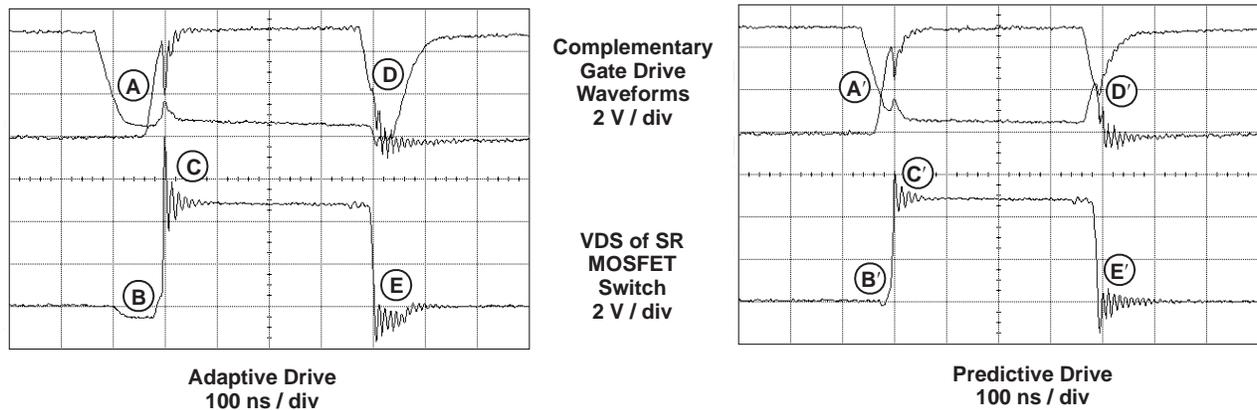
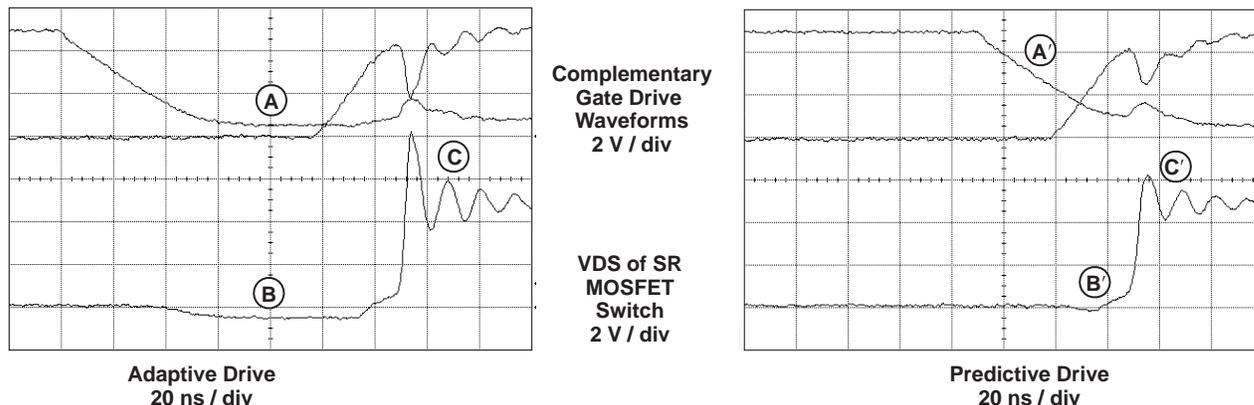

Figure 9. Adaptive vs. Predictive Switching Waveforms
Figure 10. Close-Up: Turn-Off of Synchronous Rectifier Switch to Turn-On of Main Switch
Figures 9 through 11 illustrate the adaptive (left) vs. predictive (right) switching waveforms. Key comparison regions are denoted with (A), (B), (C), (D), and (E) for the adaptive control waveforms and (A'), (B'), (C'), (D'), and (E') for the predictive control waveforms. Figures 10 and 11 are close-ups of each transition edge.